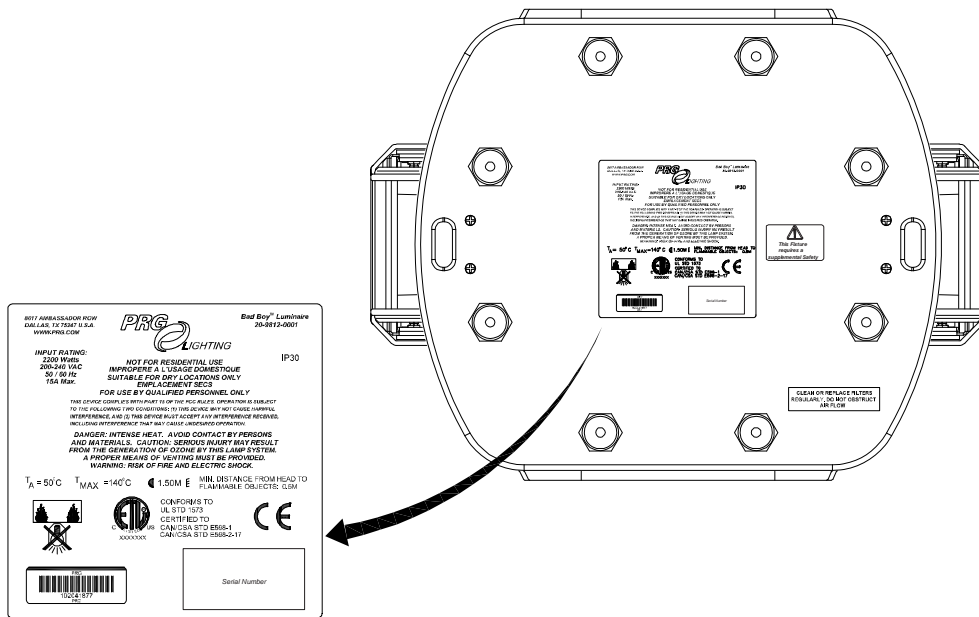

Figure 4: Removing Compliance Label from Baseplate
Step 5. Remove and save Compliance Label (with serial number and barcode) as shown in **Figure 4**.